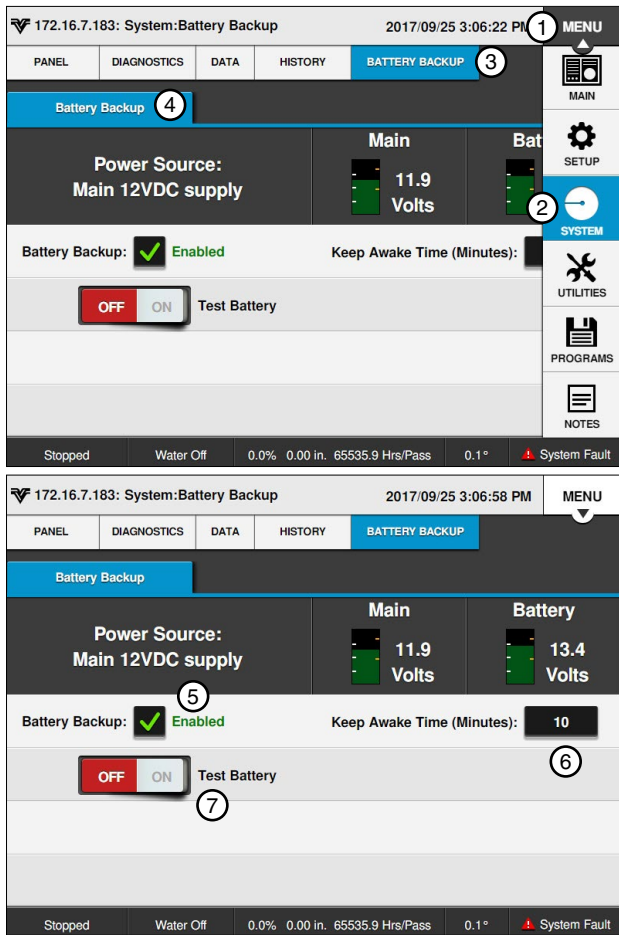

Figure 62-1 1. Menu 5. Battery Backup Checkbox
The Battery Backup screen provides the ability to keep the ICON, SRB, and telemetry awake for a set amount of time while the fault is sent to BaseStation. The Battery Backup screen also monitors the voltage from the main power source and the battery. The normal range of each voltage measurement is indicated by orange marks along one side of the volt meter. Battery Backup requires additional hardware. Refer to Figure 62-1.
1. Push **Menu**, **System**, and **Battery Backup** to display the Battery Backup screen. Refer to Figure 62-1.